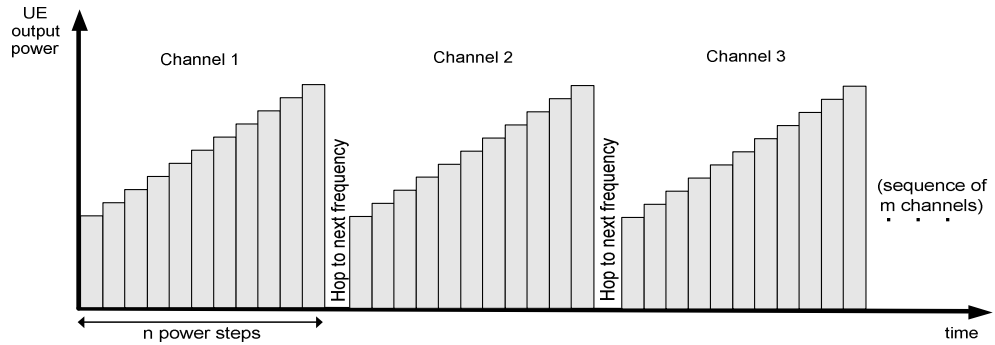

Fig. 9-5 TX calibration: mobile power settings
UE Configuration	<ol style="list-style-type: none"> 1. Stimulate the UE transmitter to change its power periodically as shown in Fig. 9-5 below. Start power: 0 dBm; increment: 2 dBm; DTX during one time period after the UE has reached +20 dBm (each 12th time period). 2. Ensure that the UE changes its frequency after each sequence of power steps, using the 12 different uplink channels no 9612 (1922.4 MHz), 9637 (1927.4 MHz) ... 9887 (1977.4 MHz).
The first, non-editable *RF Generator* frequency is given by the common generator frequency defined via *Generator Settings – RF (TX) Frequency*. The generated power step sequence is analogous to Fig. 9-5 on p. 9.23.